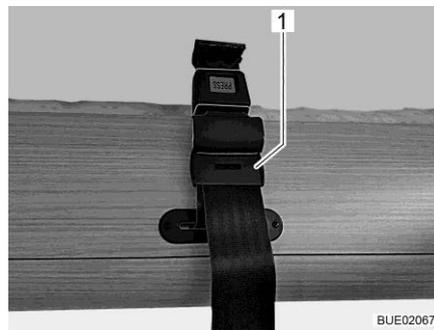
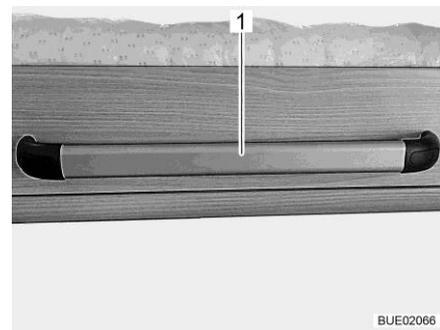

Fig. 136 Retaining belt on pull-down bed
Fig. 137 Handle on pull-down bed (Lyseo Time I)
- Pull-down bed with retaining belts: Release retaining belts (Fig. 136,1) and pull pull-down bed (Fig. 137,1) down at the handle.
- Pull-down bed with retaining belts: push pull-down bed upwards at the handle (Fig. 137,1). Secure pull-down bed with both retaining belts (Fig. 136,1) on the left and right.